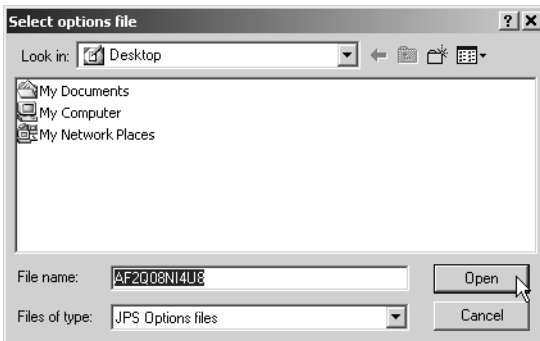

Figure 4-13. Load OAF
3. Navigate to the location of the new Option Authorization File. OAFs have .jpo or .tpo extensions and are unique to each receiver (Figure 4-13).
4. Select the appropriate file and click **Open** (Figure 4-13). The new receiver option loads onto the receiver and the Option Manager table updates.